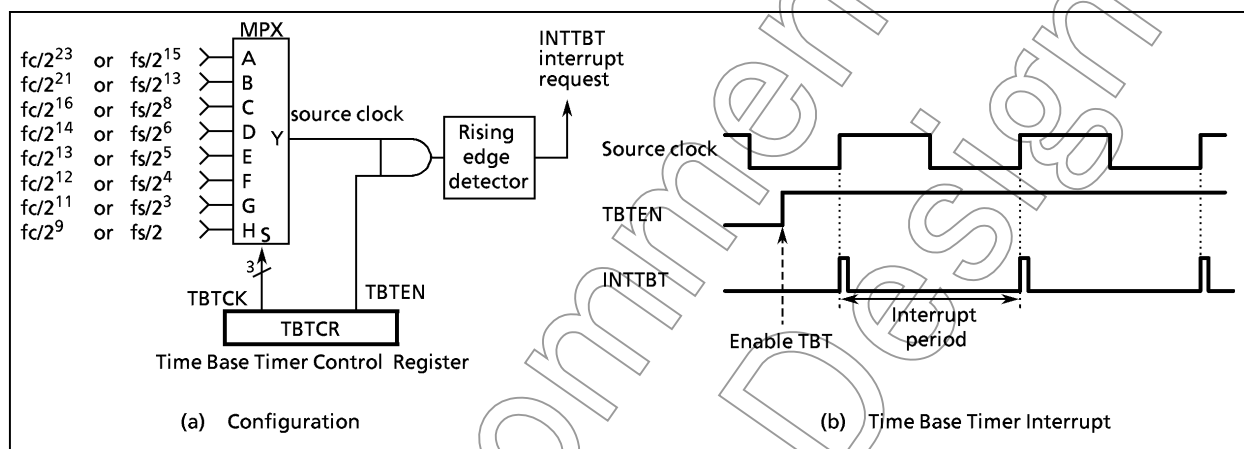

Figure 2-9. Time Base Timer
**Note 1:** Because the divider is not cleared by the program, only the first interrupt may be generated ahead of the set interrupt period (Figure 2-9).